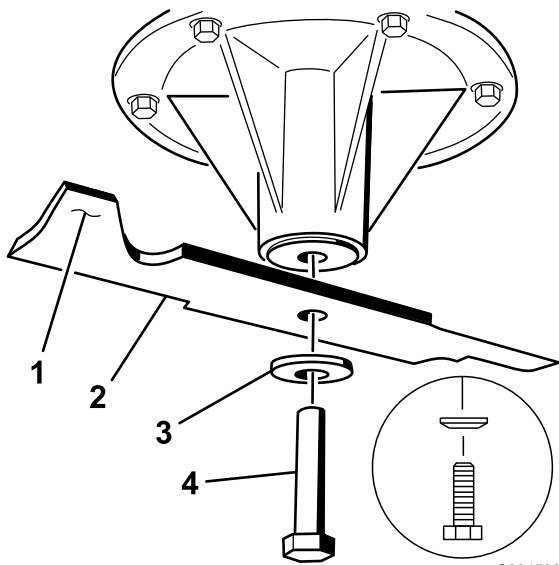

Figure 102
1. Install the blade onto the spindle shaft (Figure 102).
2. Install the spring disk and blade bolt. The spring disk cone must be installed toward the bolt head (Figure 102). Torque the blade bolt to 115-150 N-m (85-110 ft-lb).